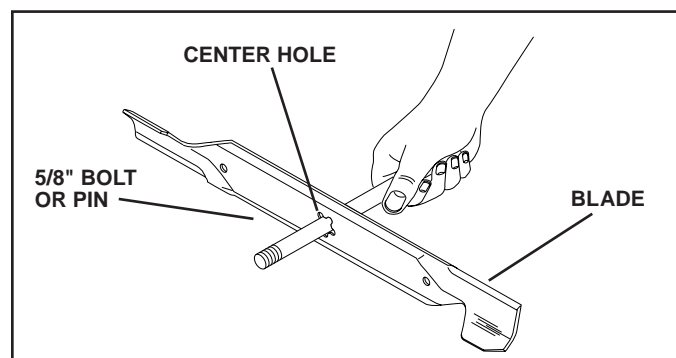

FIG. 12
- When mowing large areas, start by turning to the right so that clippings will discharge away from shrubs, fences, driveways, etc. After one or two rounds, mow in the opposite direction making left hand turns until finished (See Fig. 12).
### BLADE REMOVAL (See Fig. 12)